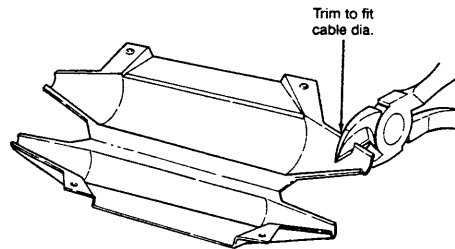

Figure 4
C. INSULATE CONNECTION(S) Multi-Conductors only
- Trim tapered ends of mold with knife or diagonal cutting pliers to fit cable diameter (Figure 4).